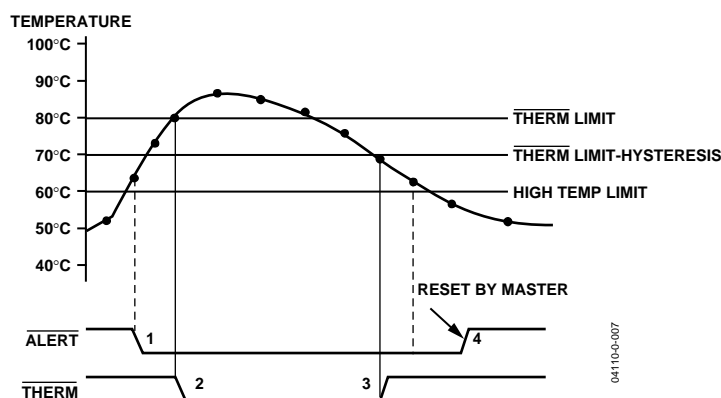

Figure 21. Operation of the $\overline{\text{ALERT}}$ and $\overline{\text{THERM}}$ Interrupts
Figure 21 shows how the $\overline{\text{THERM}}$ and $\overline{\text{ALERT}}$ outputs operate. A user may choose to use the $\overline{\text{ALERT}}$ output as an $\overline{\text{SMBALERT}}$ to signal to the host via the $\overline{\text{SMBus}}$ that the temperature has risen. The user could use the $\overline{\text{THERM}}$ output to turn on a fan to cool the system, if the temperature continues to increase. This method would ensure there is a fail-safe mechanism to cool the system without the need for host intervention.
3. The $\overline{\text{THERM}}$ output deasserts (goes high) when the temperature falls to $\overline{\text{THERM}}$ limit minus hysteresis. The default hysteresis value of 10°C is shown in Figure 21.